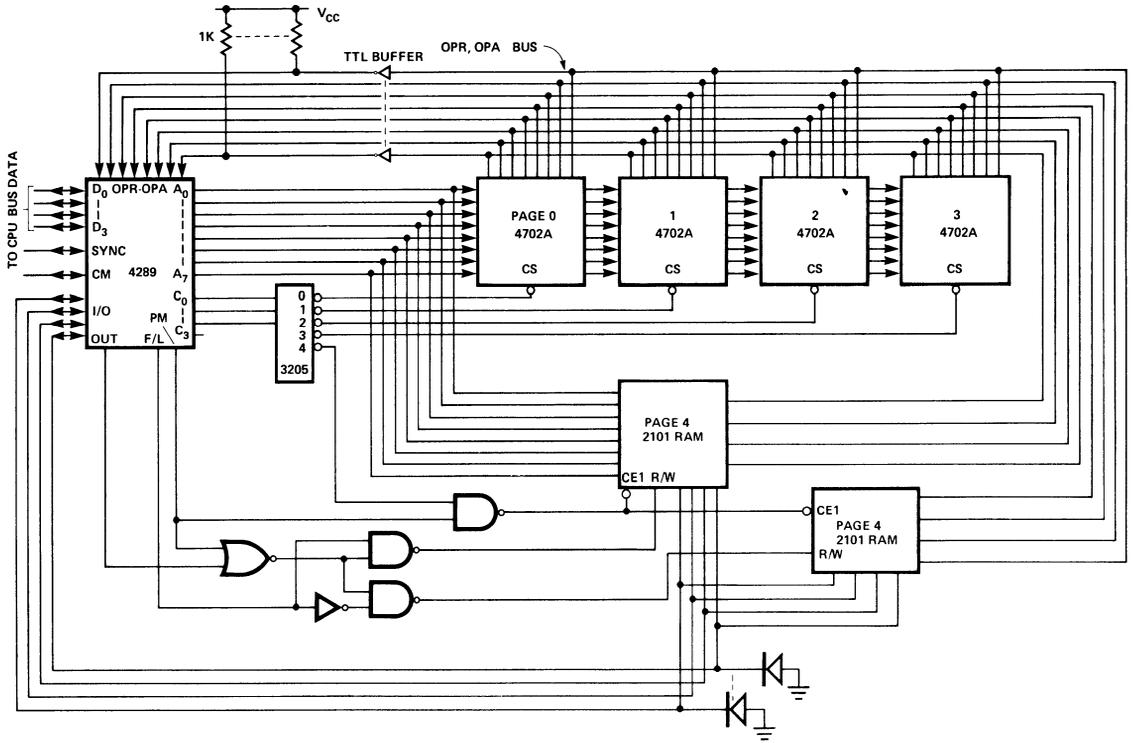

Figure 2. PROM and RAM System.
2. Standard PROM and RAM Memory System (Figure 2). This system again contains 4 pages of PROM storage but, in addition, has one page of RAM storage which can be used for either PROGRAM or DATA storage by using the WPM/RPM instructions. (The RPM instruction is valid only with the 4040.) The RAM storage has been implemented with two 2101's (256 x 4 static RAM). Notice that separate WRITE ENABLE signals must be generated for the upper and lower half-bytes of RAM.